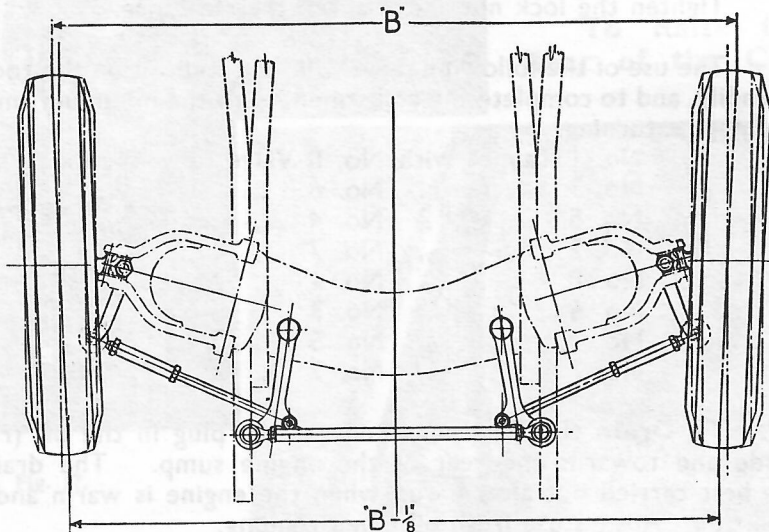

Fig. 19. "Toe-in".
- (1) Check and correct as necessary the tyre pressures (see page 44).
- (2) Check the "toe-in" of each wheel by means of one of the proprietary types of checking gauges available and if it is not between $\frac{1}{16}$ " and $\frac{3}{32}$ ", reset as follows:—
- (3) Set the steering so that the steering lever of the Steering Box and the idler steering lever occupy the position shown in Fig. 19.
(4) Measure by means of a trammel the distance between the centres of the steering box rocker shaft and that of the idler lever. The distance between the centres of the side tie rod inner ball pins should be of this dimension. If not, lengthen or shorten the tie rod to make it so.